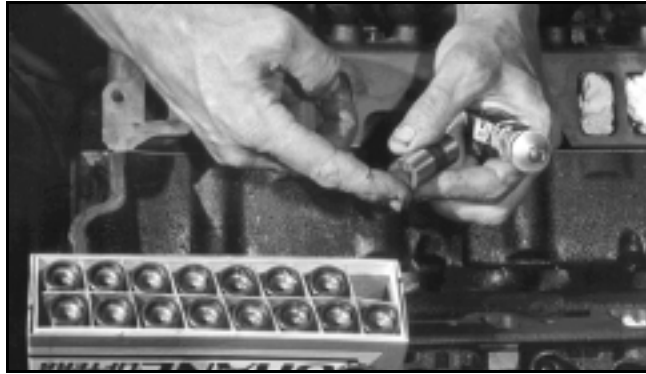

Figure 8
5. To help prevent premature lobe wear, **new lifters must be installed** with this new camshaft. (No matter how little running time is on the "old" lifters.) O.E.M. lifters are acceptable, but we recommend new Crane performance lifters for maximum reliability. With the supplied **moly paste lube Part # 9902-1**; coat the bottom of the lifters, cam lobes and distributor gear. Use Crane Cams assembly lube **Part # 99008-1** on all other surfaces and components (Figure 8).